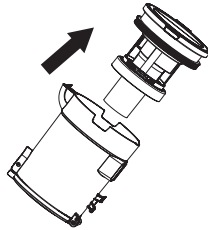
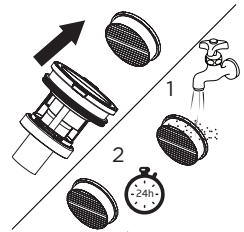
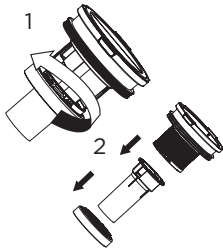
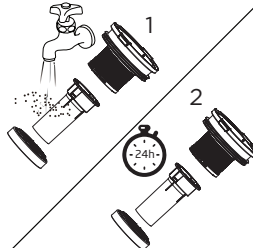

Fig. 12
Fig. 13
Fig. 14
Fig. 15
3. Lift out the cyclone from dust container (Fig 12), lift out pre-motor filter and shake off dust frequently. Every three months rinse filter and dry thoroughly (Fig 13), turn the filter assembly head anti-clockwise to disassemble the inner filter (Fig 14), wash with running water, and make sure it is dry before next use (Fig 15).